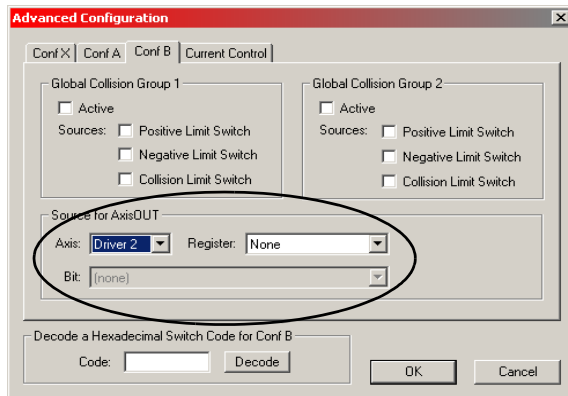

Figure 4.19 - Motorized Drives section – 2Theta – Advanced Configuration
5. Check the settings for “2Theta”. The parameters for “Sources for AxisOUT” have to look like Figure 4.19.